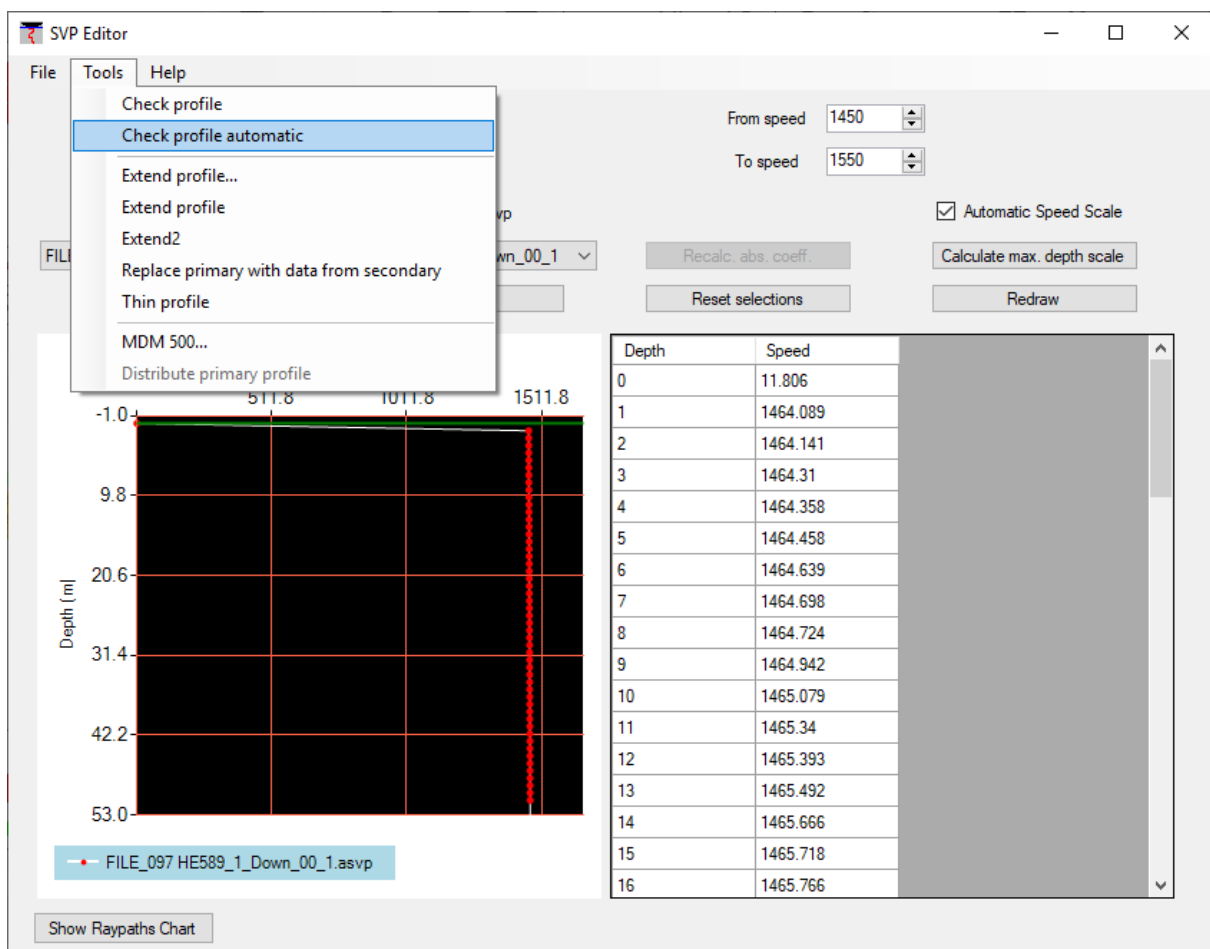

Figure 14: Check profile
- Select the delimiter from the drop down list. Choose "<tab>". (Figure 14)